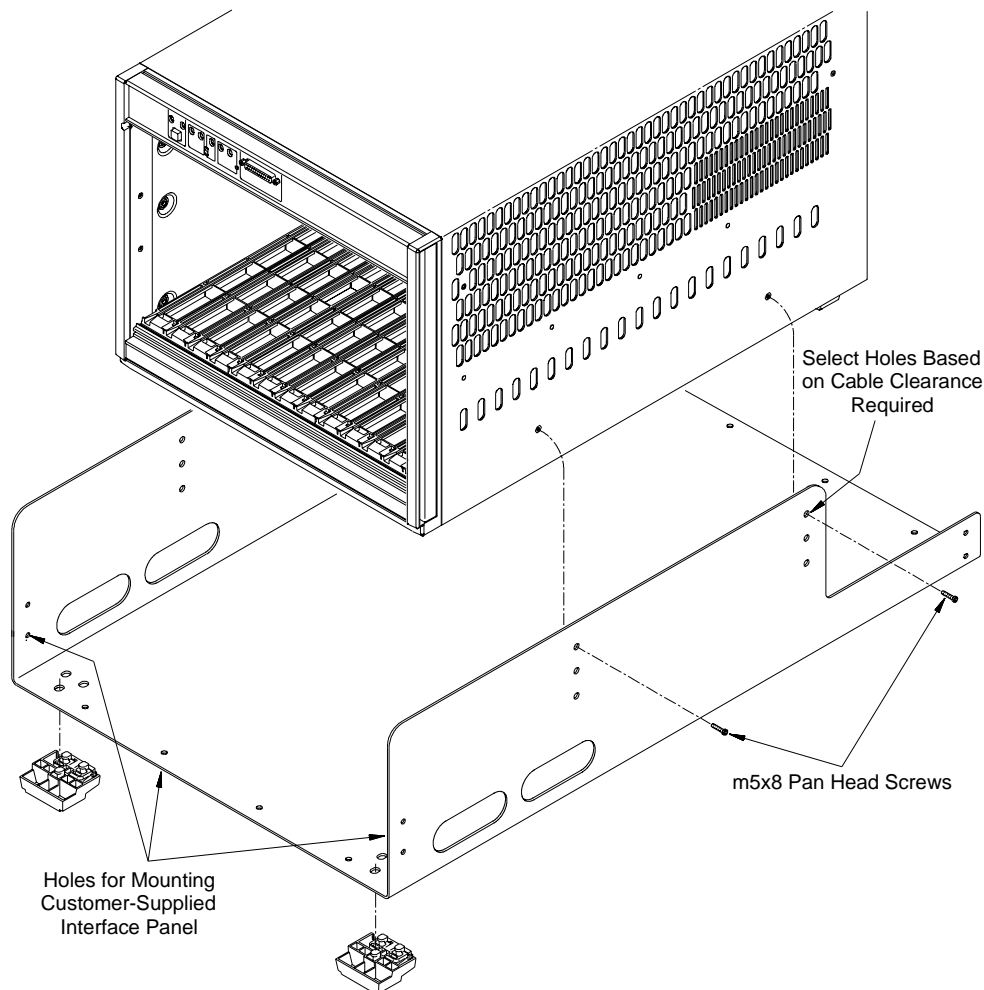

Figure 2-11. Installing the Cable Tray.
- Attach the cable tray to the mainframe as shown in Figure 2-11 using four m5x8 pan head screws. Select the tray holes based on the amount of cable clearance required.